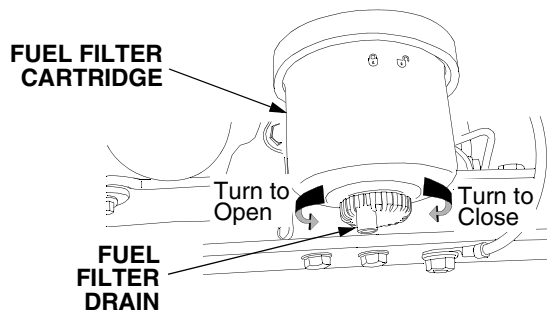

Figure 57
Drain the filter as needed, or after every 100 hours of operation (Refer to Figure 57).
- Stop the engine and place a suitable container beneath the filter drain valve. See Figure 57.
- Turn the filter drain counterclockwise to open. Allow the water at the bottom of the filter to drain until only pure diesel fuel drains from the valve. See Figure 57.
- Turn the filter drain clockwise to close. Refer to Figure 57.